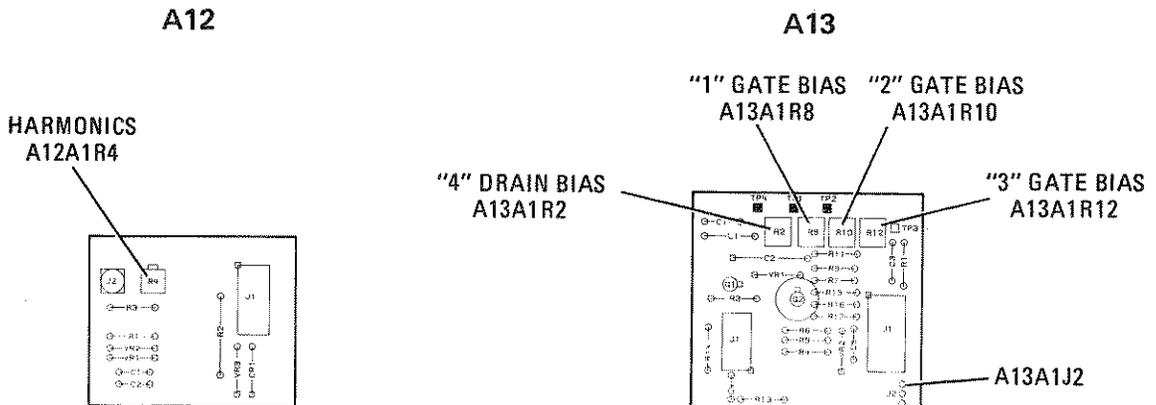

Figure 5-19. Harmonic Adjustments Location
2. Check the band-reject region of the trace. Signals observed above the noise floor of the detector represent the second harmonics of the 2 to 4 GHz swept signal. Four adjustments on the A13A1 Modulator/Amplifier bias assembly and one on the A12A1 (Figure 5-19) are used to optimize harmonic levels. Begin adjustments from left to right along the top of the A13A1 assembly with the drain bias pot, R2 ("4"), followed by three gate bias pots: R8 ("1"), R10 ("2"), and R12 ("3"). Then adjust A12A1R4. Adjust all five pots for optimum harmonic levels.